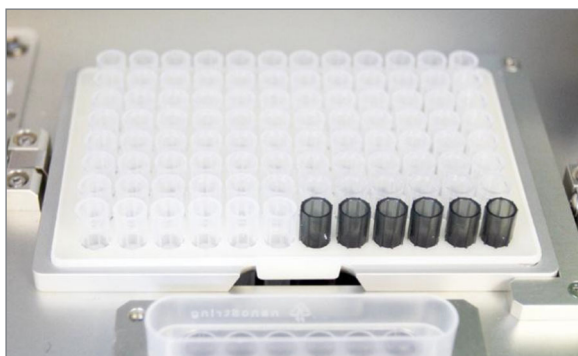

FIGURE 5.14: Proper placement of rack containing pipette tips and foil piercers
- c. Replace the loaded metal tip carrier back onto the Prep Station deck with the foil piercers closest to the front of the deck (**FIGURE 5.14**).